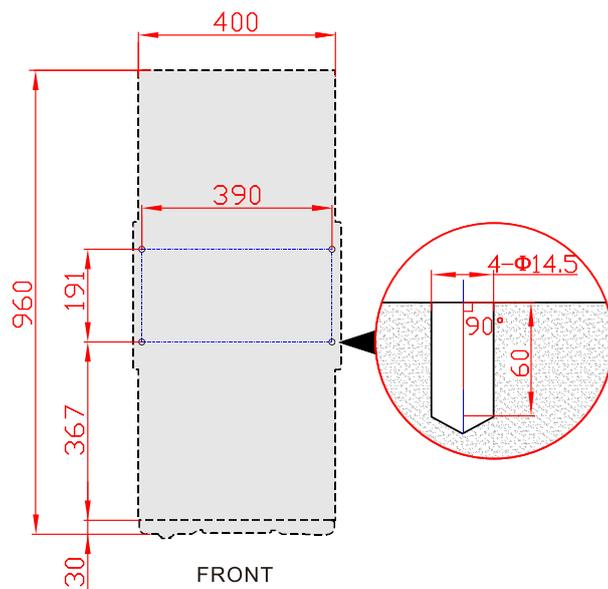

Figure3-10 Bottom installation size (bottom view of pedestal)(unit: mm)
Step 2 Drill four holes of  $\Phi 14.5$  by hammer drill according to the installation size of pedestal (as shown in Figure3-10).